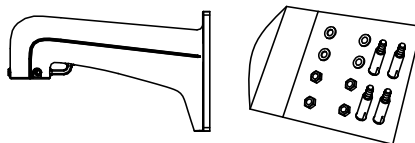

Figure 2-4 Wall Mounting Bracket
- The bracket in Figure 2-4 is the recommended bracket for this series of speed dome, and a pendant adapter is required if any other bracket is selected. The dimension of pendant adapter is G1Error..
- 1) Get the bracket and screws from the packing box as shown in Figure 2-4.
- The bracket in Figure 2-4 is the recommended bracket for this series of speed dome, and a pendant adapter is required if any other bracket is selected. The dimension of pendant adapter is G1Errorre..